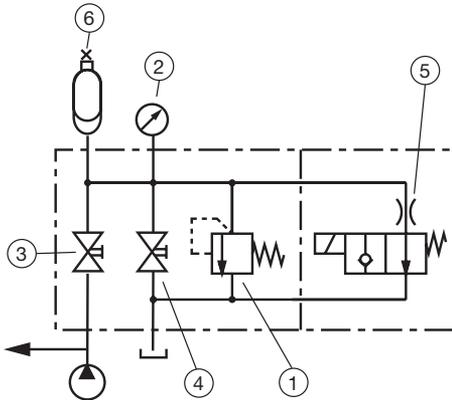

Fig. 1; Schematic of a HYDAC Safety and Shut-off Block
This method requires that a pressure gauge be installed on the safety and shut-off block (fig. 1, item 2) or similar device, which is connected directly to the accumulator. The procedure utilizing the SAF Block is as follows:
- Close shut-off valve (fig. 1, item 3).
- Discharge fluid slowly, by opening the manual bleed valve (fig. 1, item 4).
The Hydac safety and shut-off block (see fig. 1) was designed to incorporate the following safety features: